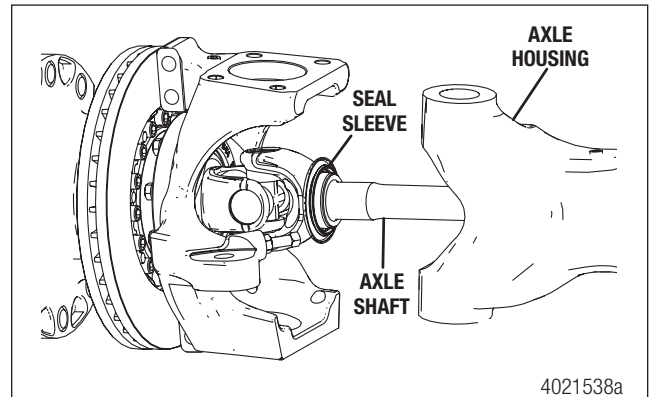
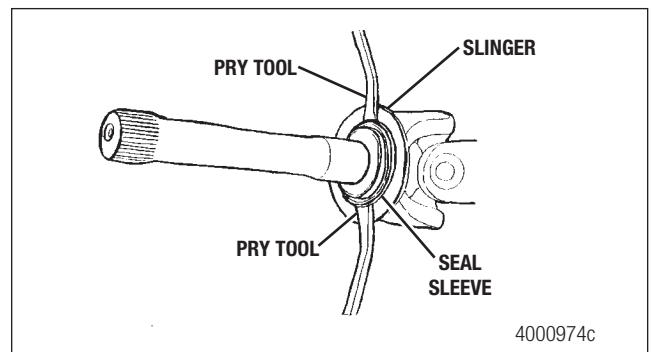

Figure 5.5
Figure 5.6
2. The axle shaft seals will come apart when the axle shaft is removed from the axle housing. The seal sleeve will be attached to the axle shaft and the seal casing will remain in the axle housing. Remove the seal sleeve from the shaft by prying against the metal shaft slinger. Be careful not to damage or bend the slinger. Figure 5.5 and Figure 5.6.